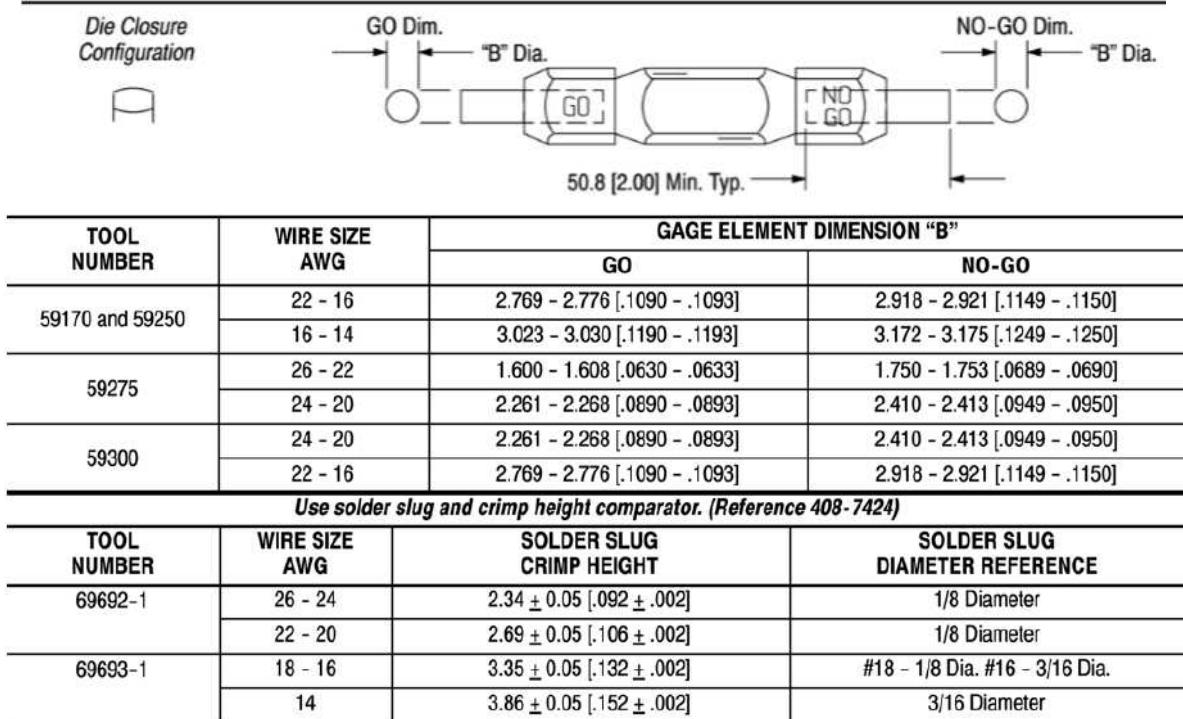
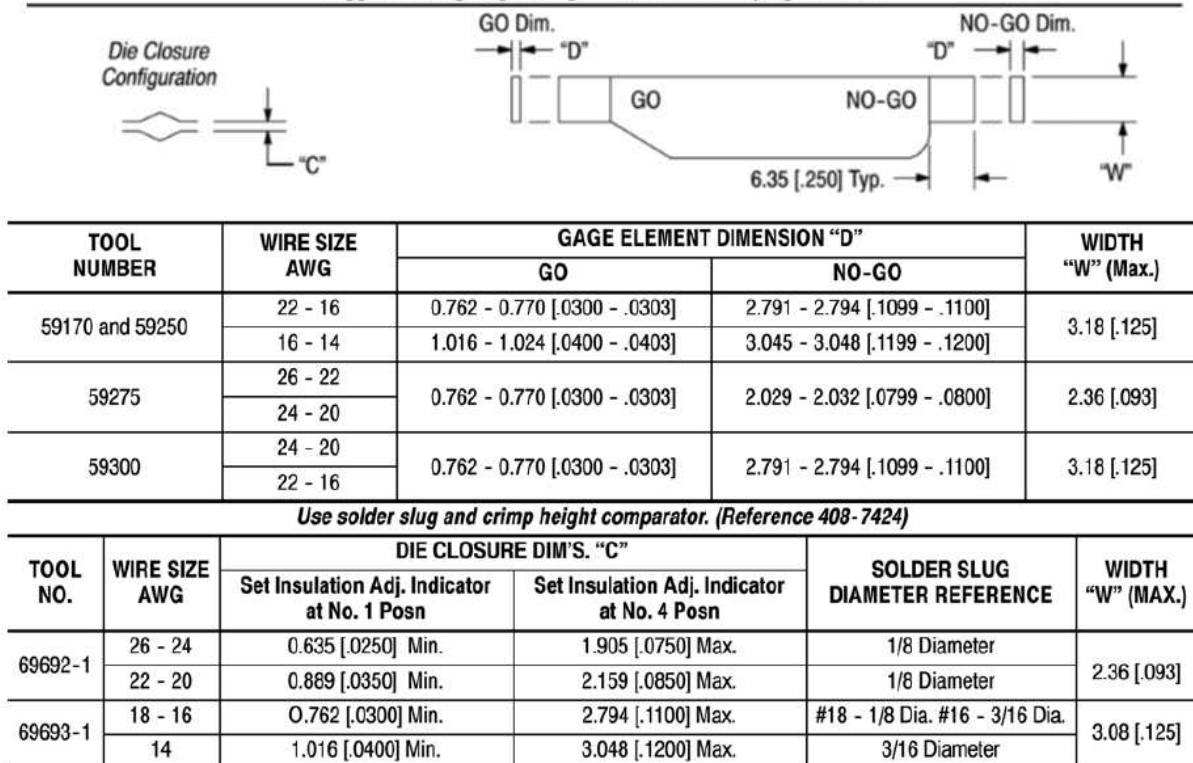

Figure 9
Figure 10
This inspection requires the use of plug gages conforming to the dimensions listed in Figures 9 and Figure 10. TE Connectivity does not manufacture or market these gages. Refer to Instruction Sheet 408-7424 for information concerning plug gages.
This inspection requires the use of crimp height comparators, solder slugs, and the dimensions listed in Figure 10. TE Connectivity does not manufacture or market crimp-height comparators. Refer to Instruction Sheet 408-7424 for information concerning comparators.
3. Insert proper solder slug into one crimp chamber (see Figure 9 and Figure 10) and cycle tool.
4. Measure the compressed solder slug for the wire- barrel crimping chamber and check for compliance to dimensions in Figure 9.
5. Measure the compressed area for the insulation- crimping chamber and check for compliance to the GO dimensions in Figure 10.
8. Measure the compressed area (of the solder) for the insulation-crimping chamber and check for compliance to the NO-GO dimensions in Figure 10.